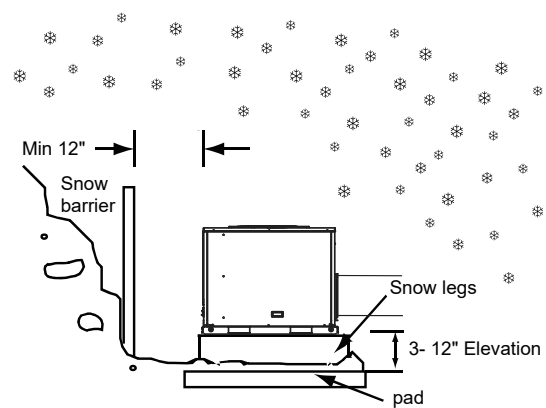

Figure 4-5
- Units should be elevated 3-12 inches above the pad or rooftop, depending on local weather. This additional height will allow drainage of snow and will permit condensate water to drain when the unit is in defrost mode. Ensure that drain holes in unit base pan are unobstructed, preventing drainage of defrost water (See Figure 4-5).